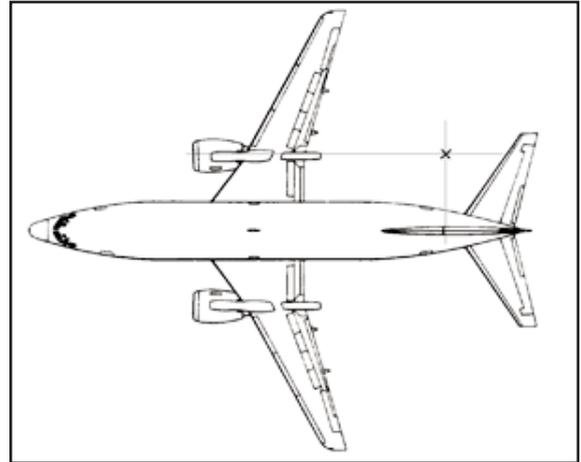

Figure 1 -Example of marking position of a 3500
one antenna, but for multiple antennas, we may have to move around some before we find just the right location. Ideally, we will be able to find one position that is suitable for all of the antennas on the vehicle. This would reduce errors and testing time. Once we find that ideal position, it is important that we record the location so that we can refer back each time we do the testing. The drawing shown in Figure 1 is an example of recording the position for testing the radios on an airplane.
13. The location and positioning of the 3500 is critical to these tests. See the introduction to over-the-air testing for instructions on positioning the 3500 (also see Figure 1).